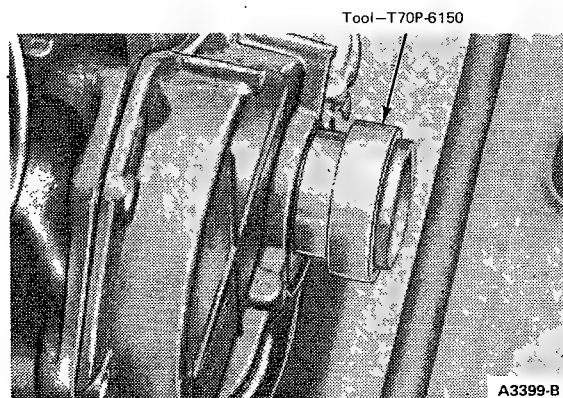

FIG. 34 Aligning Front Cover Oil Seal
5. Position the gasket, portions of oil pan gasket, if necessary, and the end seal on the front cover with an oil resistant sealer at the ends. Align the cover in position with Tool No. T70P-6150 (Figure 34). Tighten the attaching bolts evenly to specification and remove the aligner tool. Tighten the oil pan bolts to specification.
2. When fitting the cover it is important that the oil seal is aligned concentrically with the crankshaft and pulley boss with Tool No. T70P-6150 (Figure 34).